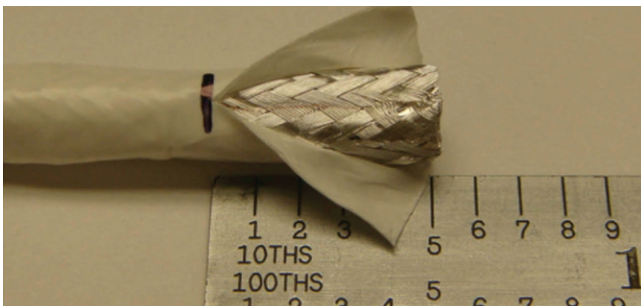

Figure 10: Slitting the cable jacket
5. To identify the end for the receptacle connector, place a piece of tape on the end in which the pairs rotate clockwise in order of green → orange → blue → brown (Figure 10).
3. Using a scalpel or scissors, slit the cable's jacket from the edge to the mark (Figure 10).